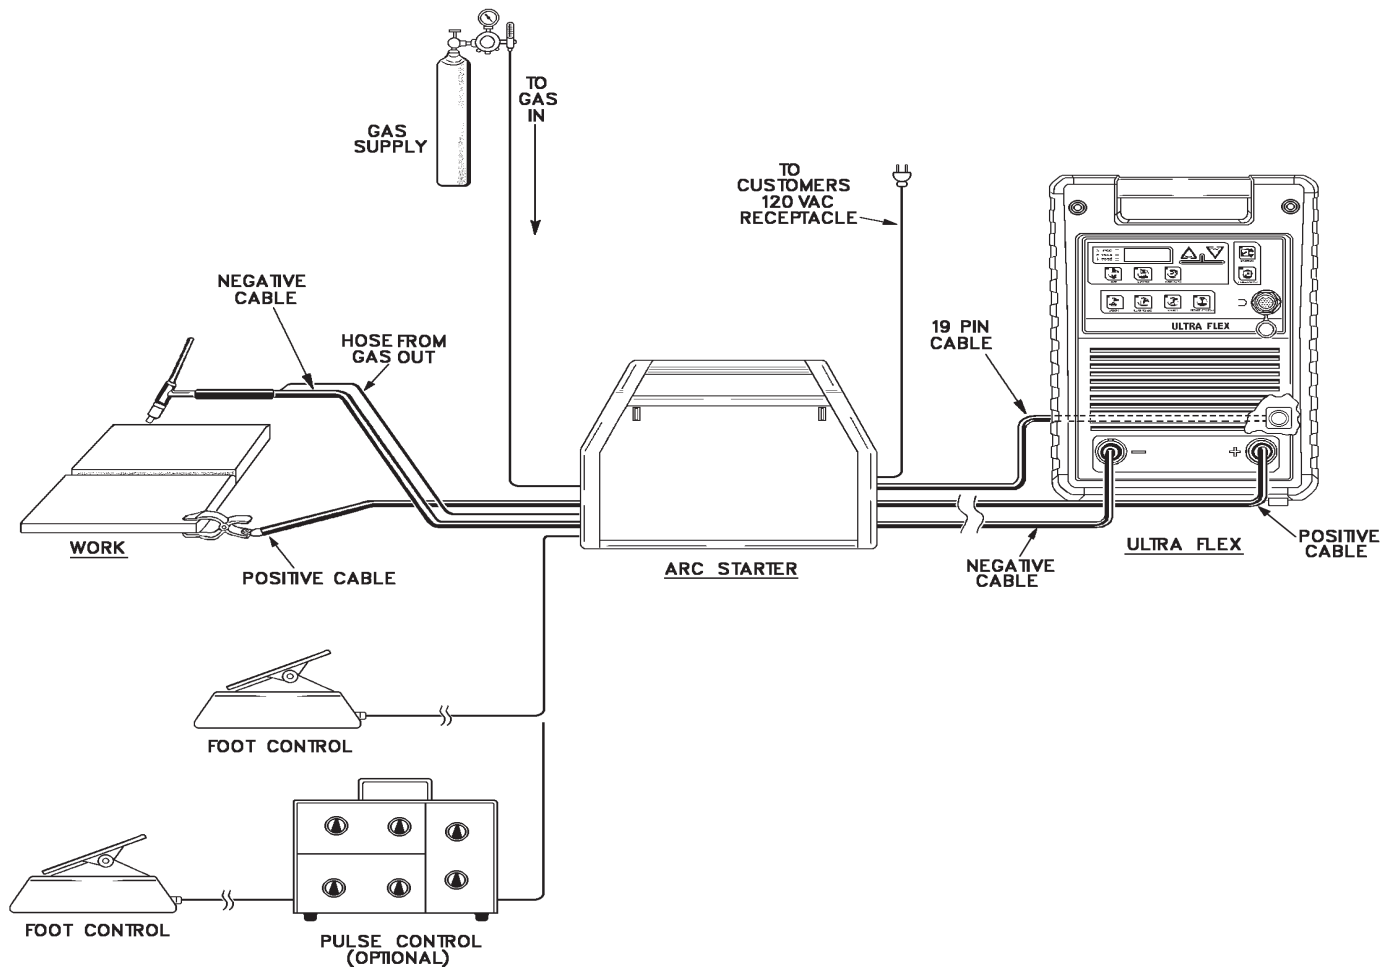

Figure 5-3
1. Figure 5-3 shows typical connections for an Optional Arc Starter Box.